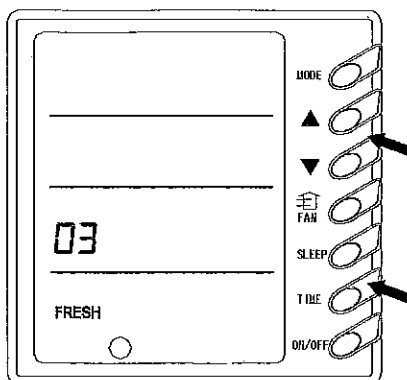

Fig 8
7) Fresh Air Valve Setting (Figure 8)